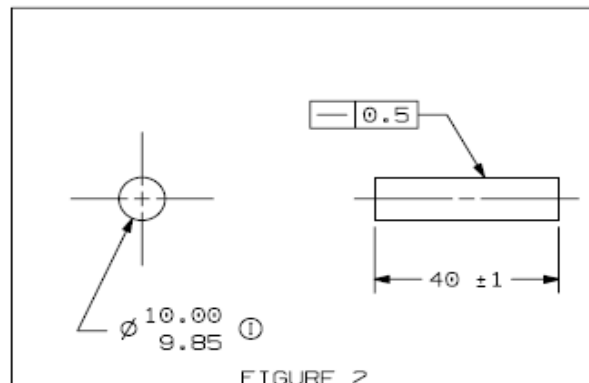

FIGURE 2
**Figure 2** shows the same cylindrical feature. In this example, the independency symbol has been applied to the size dimension. The independency symbol removes the requirement of perfect form at MMC and the straightness tolerance may be larger than the size tolerance. In this case the straightness tolerance is 0.5. All circular elements must be within the specified size tolerance (10.00/9.85). Each longitudinal element of the surface must lie between two parallel lines separated by the straightness tolerance (0.5). See Table 2